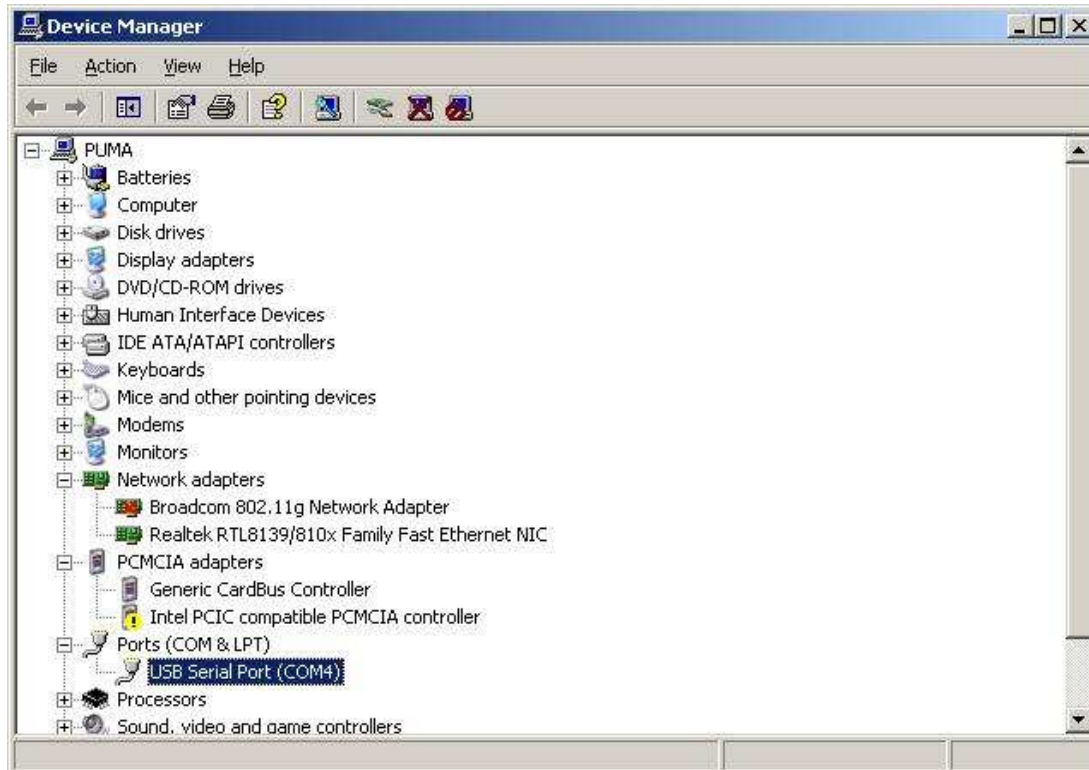

Figure 24: System Properties, Hardware (Device Manager)
2. Double click on the `Hardware` tab to obtain the `Device Manager` screen of figure 24.
In the `System Properties`, `Hardware` panel of figure 24, there should be an entry `Ports (COM & LPT)`. Double click on that and it should open to an entry like `USB Serial Port (COM4)`.
2. In the `System Properties`, `Hardware` panel of figure 24, there should be an entry `Ports (COM & LPT)`. Double click on that and it should open to an entry like `USB Serial Port (COM4)`.